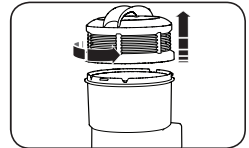

Fig. 5
1. To access the filter, remove the filter assembly by removing the dust container lid. Turn the lid counterclockwise until it clicks (Fig. 5).